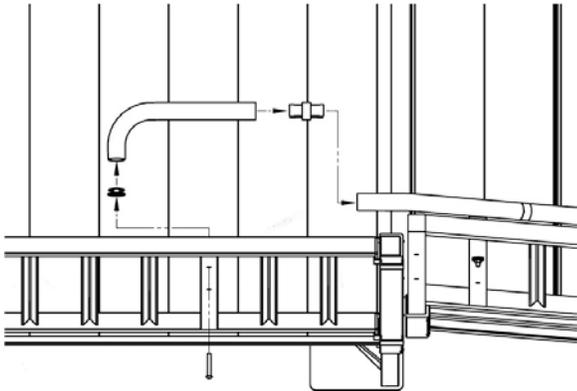

FIG. 20
- 5.1 For situations where the step guard is adjacent and parallel to a platform guard refer to steps 5.1.1 through 5.1.7 for returning the step handrail to the platform guard (FIG. 20).